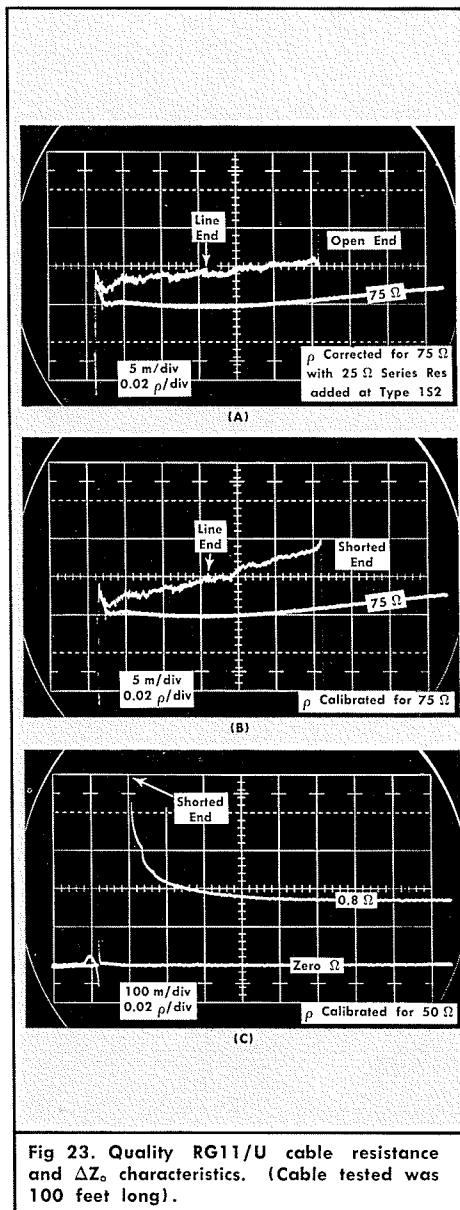

Fig 23. Quality RG11/U cable resistance and ΔZ_0 characteristics. (Cable tested was 100 feet long).
Fig 23 shows the same series resistance characteristics for RG11/U cable. However, instead of terminating the cable end, the series resistance was measured first with the end open, and then with the end shorted. Note the difference in slope of the waveform (apparent change in resistance) after the signal has traveled to the indicated line end. The change in slope is due to distortion of the originally flat incident pulse by traveling through the cable once. As the non-flat signal reaches the cable end, its reflection back through the cable is altered a second time. The net result is an obvious distortion to the true resistive slope of the reflected "bits" of the distributed series resistance during the 2nd half of the reflection. This example is given to show the desirability of properly terminating any line section in which you wish to measure its total distributed series resistance. (Conditions leading to this changing slope phenomenon are described by H. H. Skilling on page 397 of his text "Electronic Transmission Lines", McGraw-Hill, 1951.) Each of the three waveform pictures of Fig 23 is a double exposure with the lower waveform showing the normal Type 1S2 response to a termination resistance at (A) and (B) and a short circuit at (C).